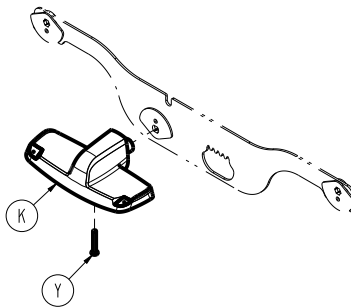

Figure 4 – Brake/steer pedal replacement
4. Using a ratchet and a T30 Torx driver, remove the screw (Y) that secures the brake/steer pedal (K) to the brake shaft (Figure 4). Remove the pedal.